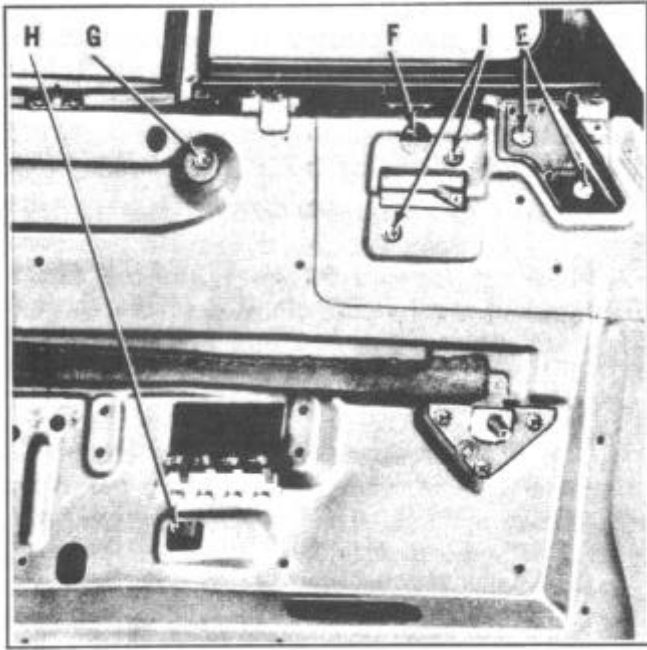

FIGURE 157
2. Remove two hex head bolts (E), Figure 157, from wing mounting bracket.
3. Remove wing pivot to regulator screw (F).
2. Remove pivot to regulator screw (F), Figure 157.
3. Remove two regulator mounting screws (I). Regulator may now be removed down thru forward end of door and out through bottom opening in inner panel.